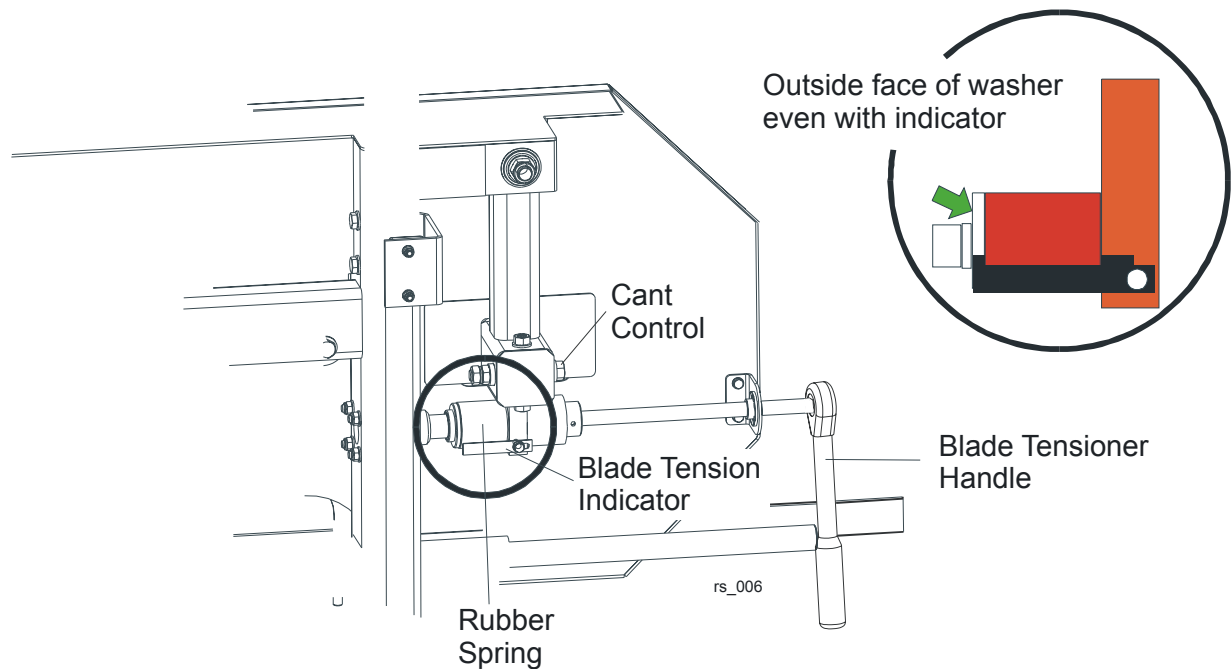

FIG. 2-3
See Figure 2-3. Place the provided ratchet on the blade tensioner shaft. Turn the ratchet clockwise until the outside face of the rubber spring washer is even with the indicator (see the figure below). Check the blade tension occasionally when adjusting the cant control or while cutting and adjust if necessary. As the blade and belts heat up and stretch, the blade tension will change. Also, ambient temperature changes can cause tension to change.
5. Use the cant adjustment bolt, shown in **Figure 2-3**, to adjust where the blade travels on the blade wheels.